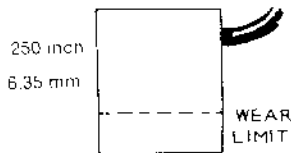

FIGURE 21. BRUSH WEAR LIMIT
**Brush Inspection:** If brushes are worn shorter than 1/4 inch (6.35 mm), replace them. Check to see that brushes move smoothly in the brush holders. See Figure 21.